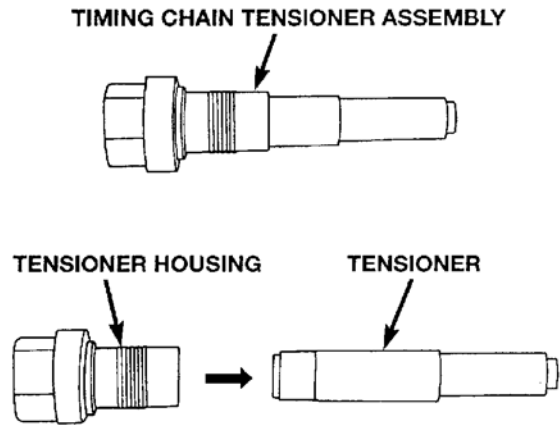

Figure 1: Disassembly Tensioner Assembly
1. Remove the tensioner from the tensioner body as shown in Figure 1.